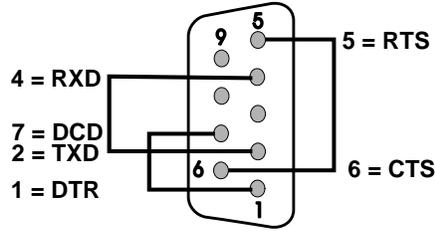

Figure 24 - RS-232 Loop-back Plug/Wires
- Ports 3 through 10 - RS-232: use a 9-pin male D-type loop-back plug or loop-back wires (see Fig. 24).
1. Connect an external loop-back plug or loop-back wires to the Communication Port to be tested (see Figures 24 and 25). For RS-485 Loopback testing, CPU Switch SW3 and/or